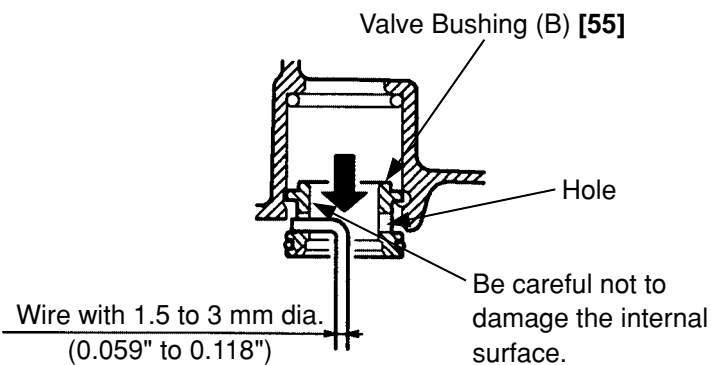

Fig. 15
- Be careful not to damage Valve Piston (B) [59], Valve Bushings (A) [64] and (B) [55], etc.
- Do not pull out the end of Plunger (A) [62] with pliers.
- 3) To take out Valve Bushing (B) [55], put a 1.5 to 3 mm (0.059 " to 0.118 ") dia. wire with its end hooked into the hole in the bushing and pull it out while being careful not to damage the internal surface of Valve Bushing (B) [55], as shown in Fig. 15.